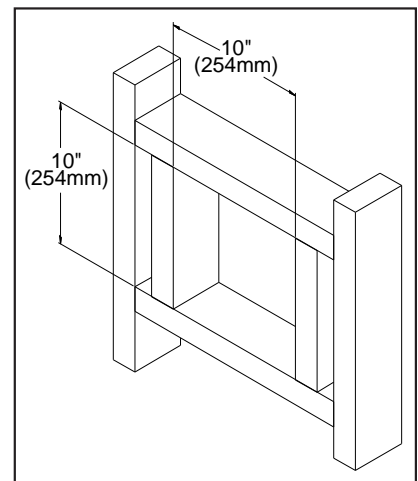

Figure 25: Wall Framing Hole for Horizontal Installation.
3. With the pipe attached to the stove in the correct location, mark the wall for a 10" (25.4cm) x 10" (25.4 cm) square hole (refer to Figure 25). The center of the square hole should match the center line of the horizontal pipe. Cut and frame the 10" (25.4cm) x 10" (25.4cm) hole in the exterior wall where the vent will be terminated. Refer to Figure 25. If the wall being penetrated is constructed of non-combustible material i.e. masonry or concrete, a 7" (17.8cm) hole is acceptable.